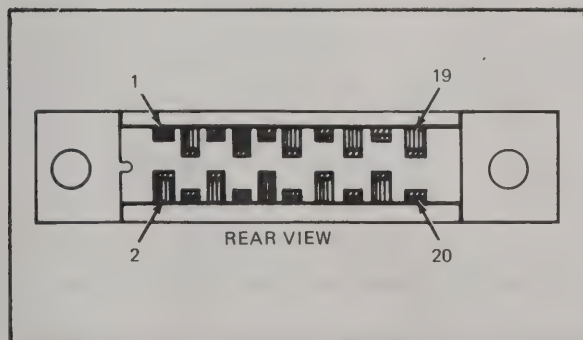

Figure 6-15. DPOU MATING CONNECTOR DETAIL
- i. Install the wires on the mating connector for the interfaced instrument using the DPOU connector information given in Table 6-4 and Figure 6-15.